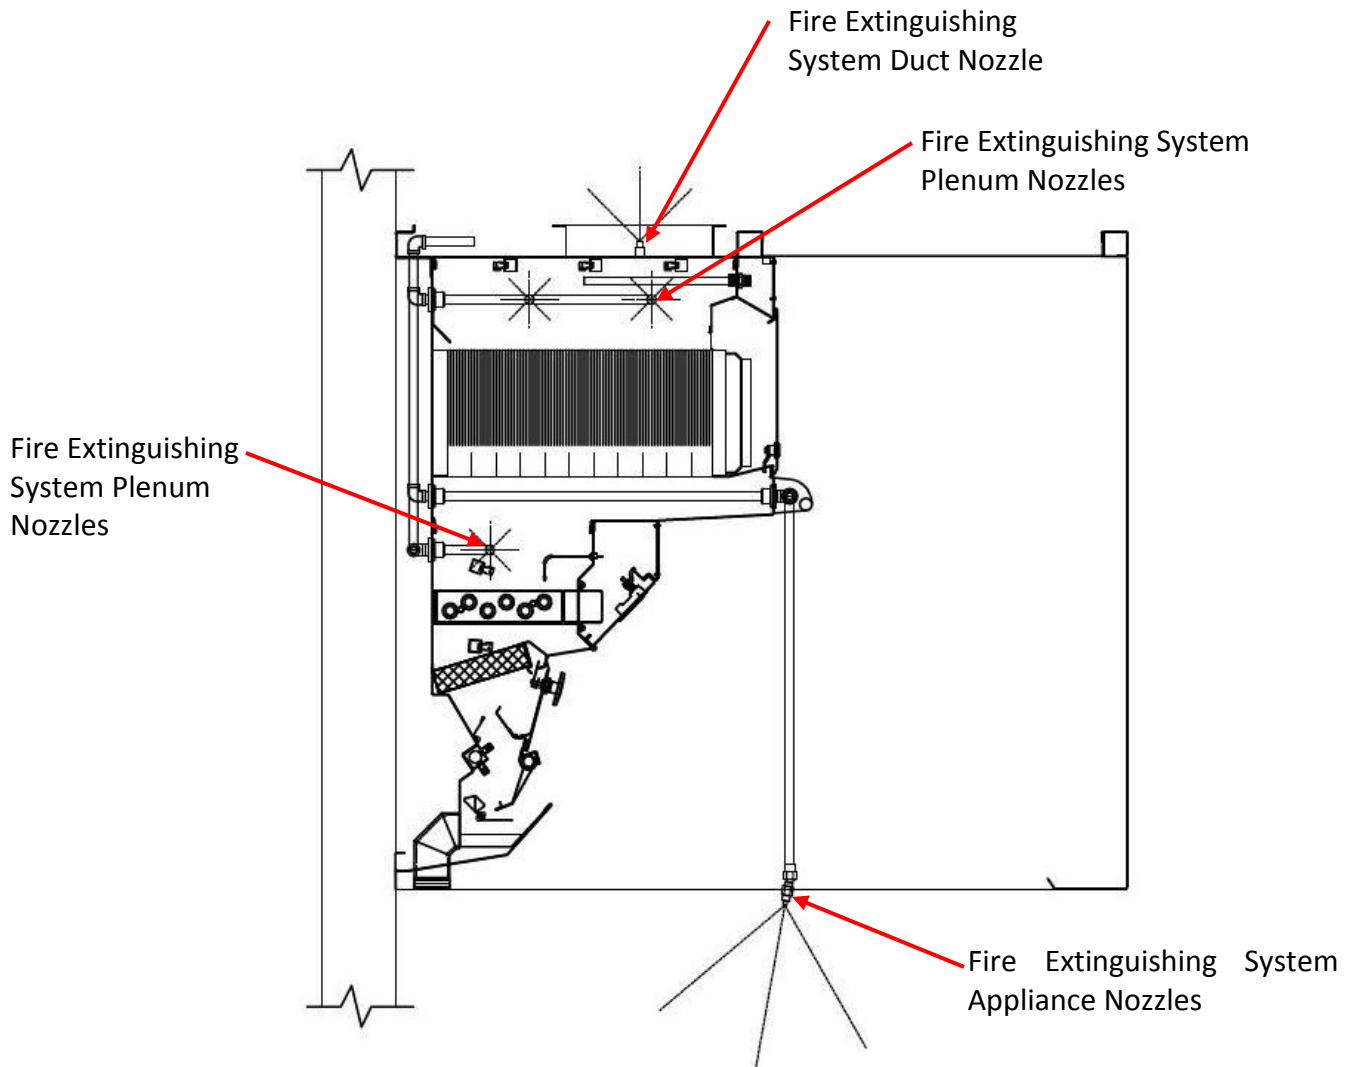

Figure 2-17-1
The National Fire Protection Association Standard 96 (NFPA-96) and the International Fire Code (IFC) requires the use of a Fire Extinguishing System to cover the cooking surfaces, Ventilator exhaust plenums (the area above the ESP Cells), and the exhaust duct (Refer to Figure 2-17-1). Upon activation of the Fire Extinguishing System the follow will occur:
1. Fire extinguishing agent will discharge through the cooking equipment nozzles, the plenum nozzles and the duct nozzle(s) (Refer to Figure 2-17-1).